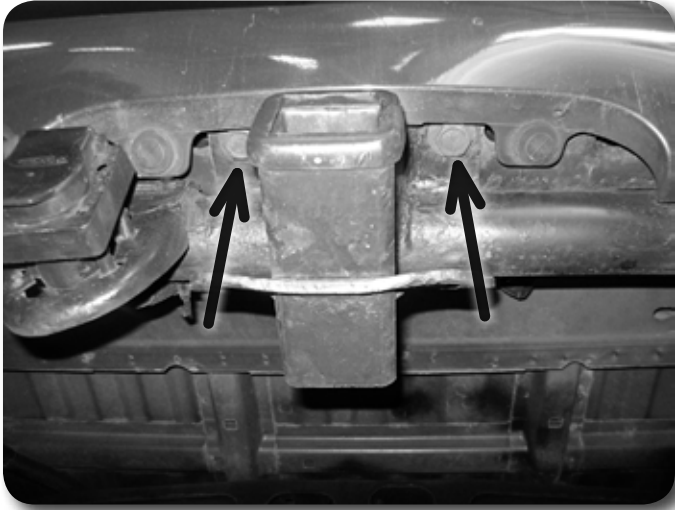

Figure 11
17. Remove the 2 bolts on each side of the receiver Figure 11.